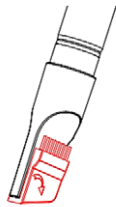

Fig. 10
1. As in **Fig.10**, you can use the cervice nozzle to clean the corner and the aperture.